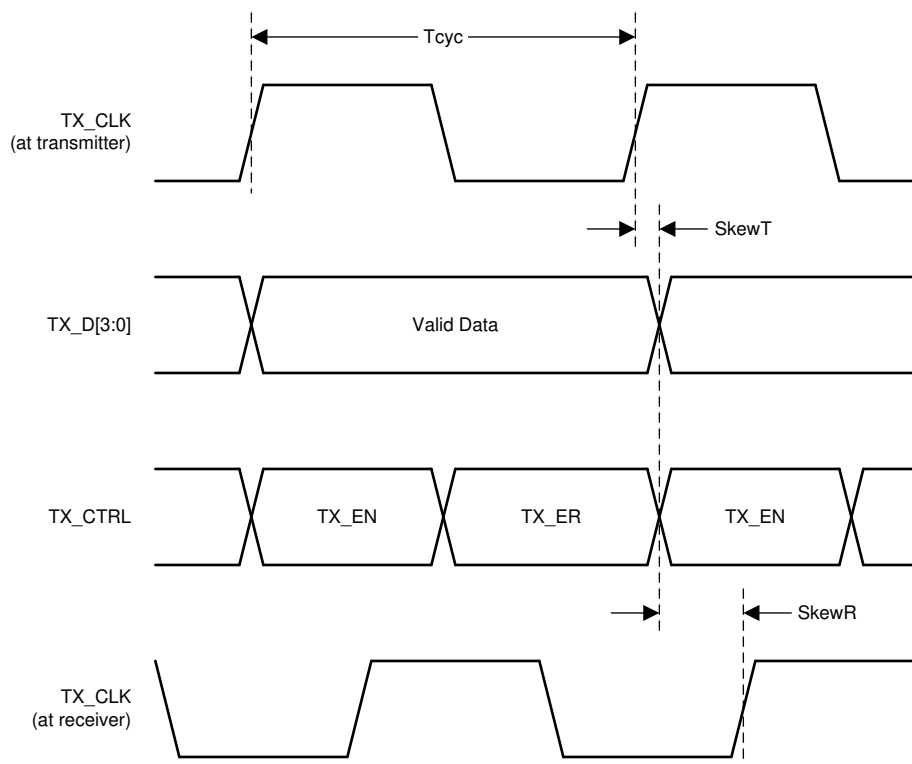
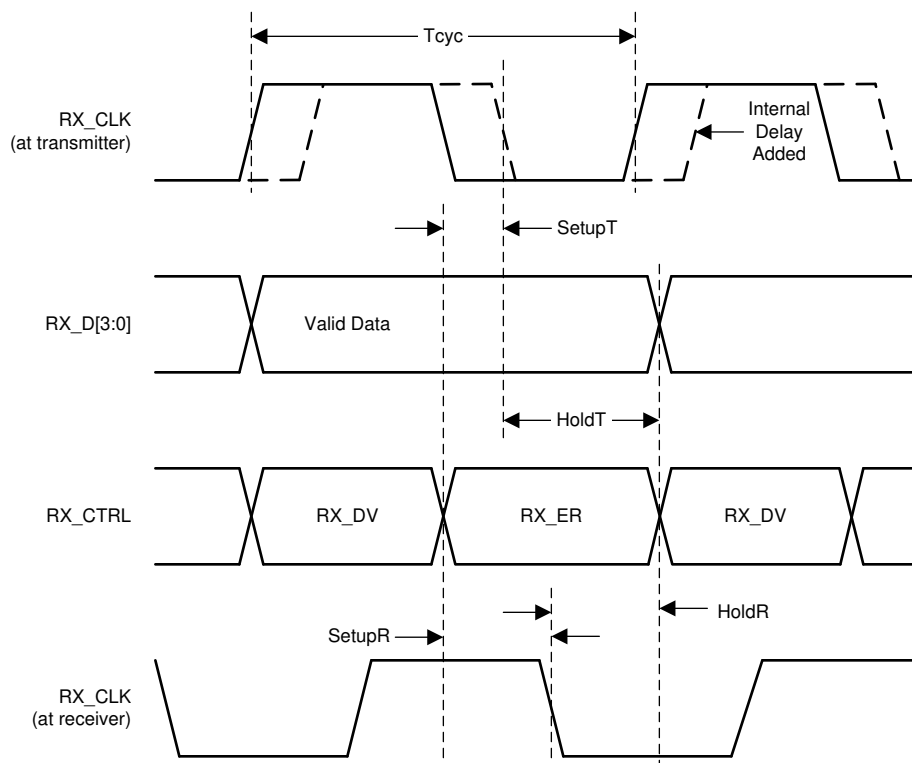

Figure 7-11. RGMII Transmit Timing
Figure 7-12. RGMII Receive Timing
(1) Ensured by production test, characterization or design.
(2) When operating without RGMII internal delay, the PCB design requires clocks to be routed such that an additional trace delay of greater than 1.5 ns is added to the associated clock signal.
(3) Device may operate with or without internal delay.
(4) The duty cycle may be stretched or shrunk during speed changes or while transitioning to a received packet's clock domain as long as minimum duty cycle is not violated and stretching occurs for no more than three Tcyc of the lowest speed transitioned between.
(5) See Figure 7-11 and Figure 7-12.